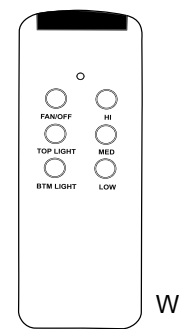

Fig. 2
4. Install the 9-volt battery (Z) provided.
5. Restore electrical power. Within 30 seconds of restoring electrical power, press the "FAN/OFF" button on the remote control transmitter (W) for 5 seconds or until lower light blinks twice. Test the light and fan functions to confirm the learning process is complete. [Fig. 2]